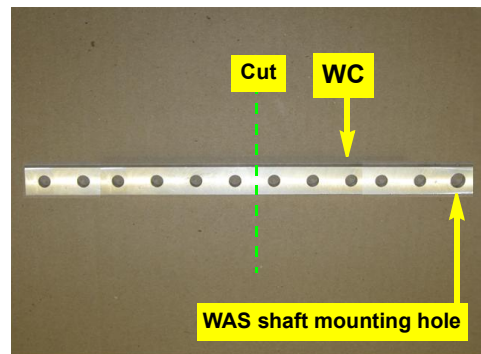

Figure 1b: WAS arm preparation
- b. Cut six holes off WAS arm **WC** at the opposite end from the WAS shaft mounting hole (Figure 1b).